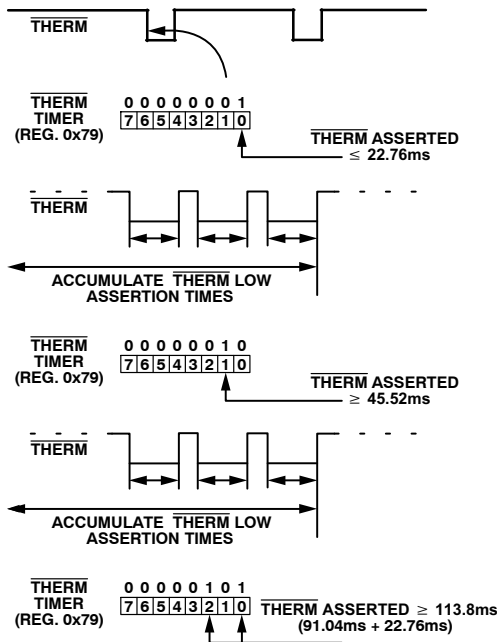

Figure 32. Understanding the $\overline{\text{THERM}}$ Timer
45.52 ms, Bit 1 of the $\overline{\text{THERM}}$ timer is set and Bit 0 now becomes the LSB of the timer with a resolution of 22.76 ms (see Figure 32).